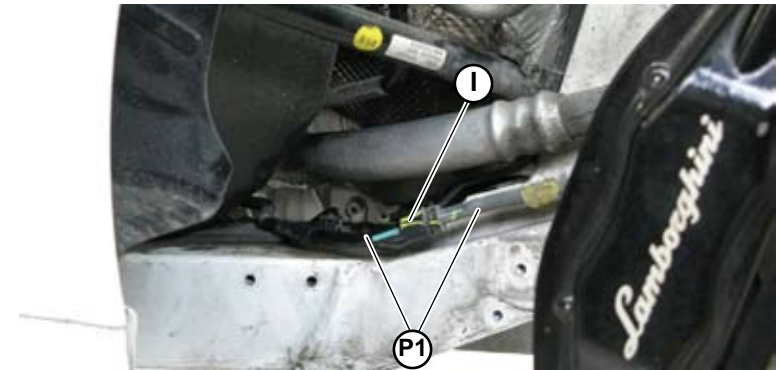

Fig.29
8. Loosen the connection nut (**I-Fig.29**) to disconnect the front part from the rear part of the **P1** delivery pipe.